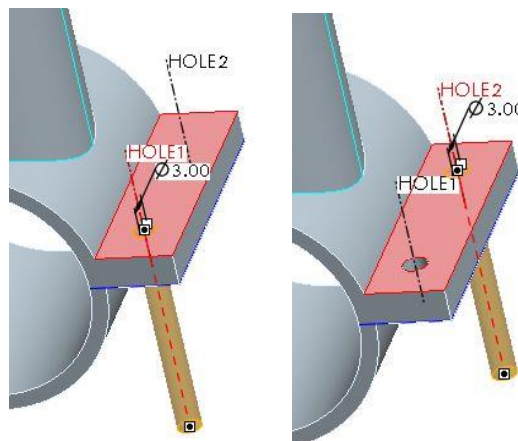

Figure 20 – Holes in the block part
- With the hole still selected, press **CTRL+C** and then **CTRL+V**. Select axis **HOLE2**, press **CTRL** and select the hole's placement surface, as shown Figure 20. Click **Complete Feature** .